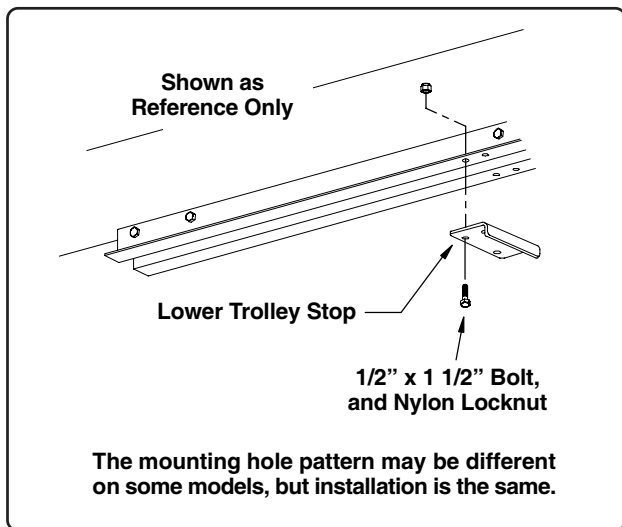

Fig. 33
1. The lower trolley stop will mount to the tracks at the lowest set of holes at the inlet end of the tracks. Secure lower trolley stop using four (4) 1/2" x 1 1/2" bolts and nylon locknuts (See Fig. 33).